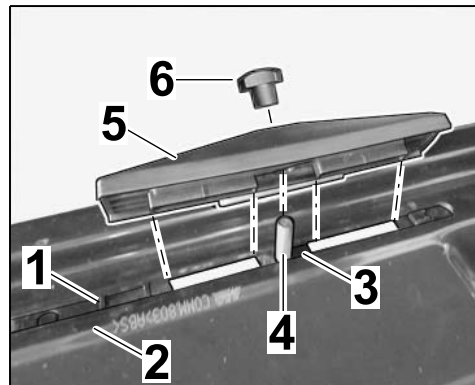

Figure 3
1.2.4 Loosely fit M8 butterfly nut ( $\Rightarrow$  Figure 3).